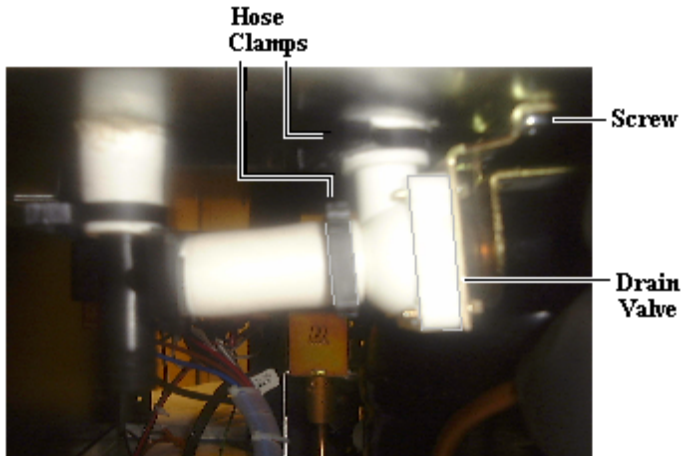

Figure 4.1
5. Loosen the hose clamps on each side of the drain valve (see figure 4.1)
6. Remove the two screws securing the drain valve (see figure 4.1).